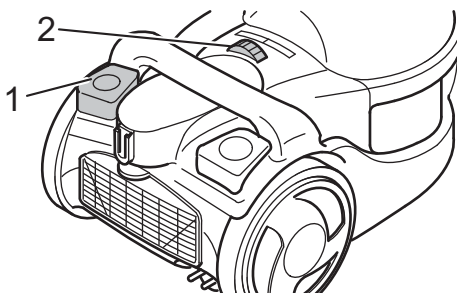

Fig.11
3. Switch on the cylinder vacuum cleaner using the on/off switch (Fig. 11/1).
4. Turn on the suction using the suction controller (Fig. 11/2).